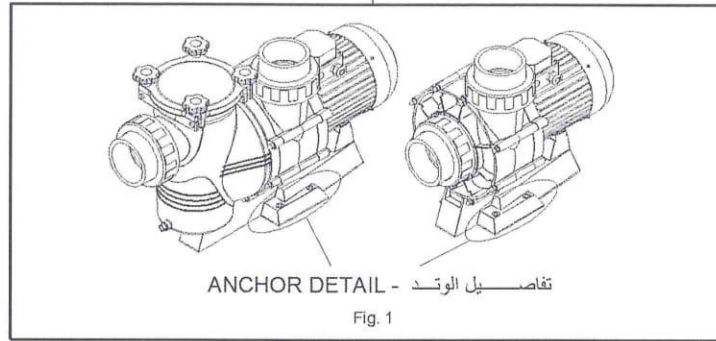

Fig. 1
- All pumps come with a two-drill foot to allow for them to be fixed in the floor by means of an anchor. (Fig. 1).